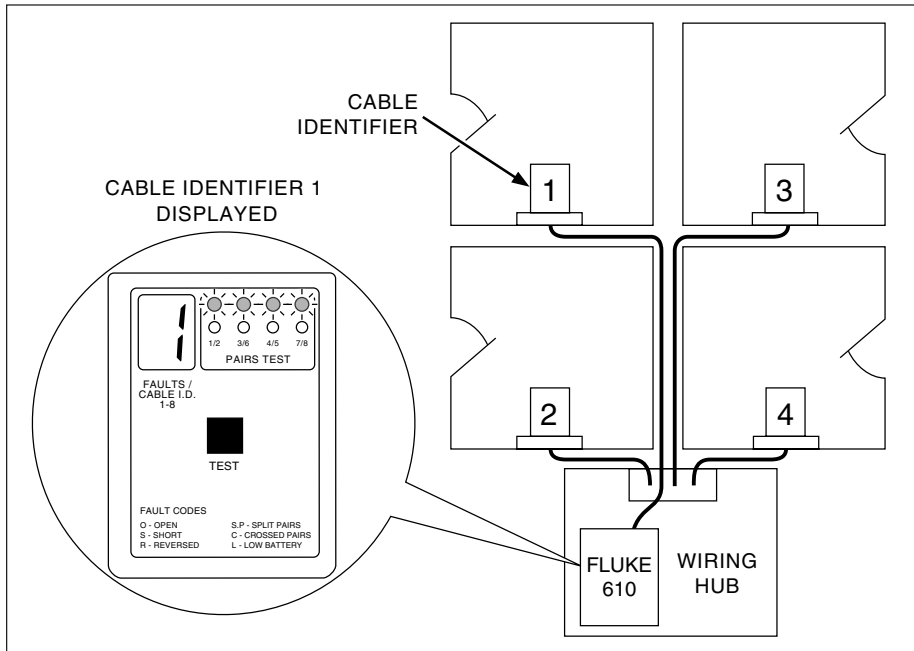

Figure 4. Cable Identification
1. Connect a Cable Identifier to one end of the cable to be identified; this is usually a wall plate at the user end. Record the Cable Identifier number with the location of the cable. Up to eight different cable identifiers can be used at one time. Figure 4 shows an example of cables running between four rooms and a wiring hub.